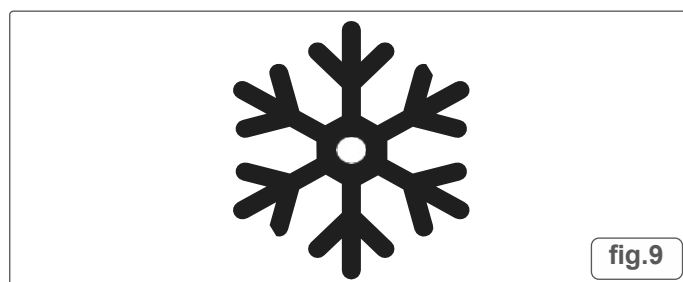

fig.9
- The 6th setting on the control panel, represented by the snowflake (Fig.9), is a super freeze function. This should be used when freezing large quantities of food all at once. Activate this function 2 or 3 hours before introducing the food and do not leave it to run for more than necessary. Leaving it to run for longer will place unnecessary strain on the cooling system. The function will automatically deactivate after approximately 24 hours.